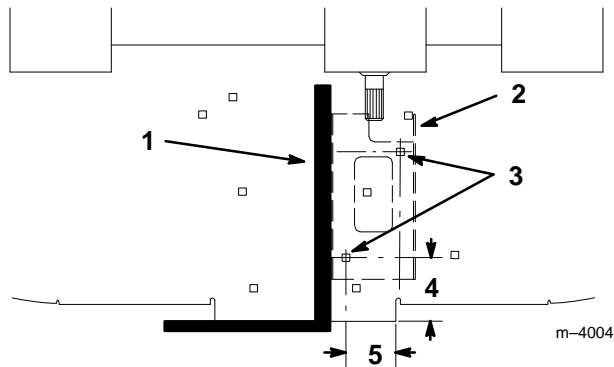

**Figure 4**
2. Clamp the roller bracket against the rear of the mower next to the outer deck weld and flush with the bottom of the mower (Fig. 4).
3. Using the bracket as a guide, center punch and pilot drill (4) 1/4" holes, then drill (4) 13/32" (10.5 mm) holes in the mower (Fig. 4).
4. Insert (4) 3/8-16 x 1" (26 mm) bolts through from the inside of the mower and secure them with (4) 3/8-16 locknuts (Fig. 4).